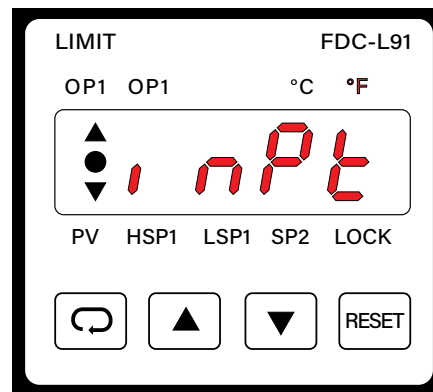

Figure 15
1. After power-up, press and hold the SCROLL key for 4 seconds. You will be in the set-up mode. The controller will read "INTP". (**See Figure 15**).